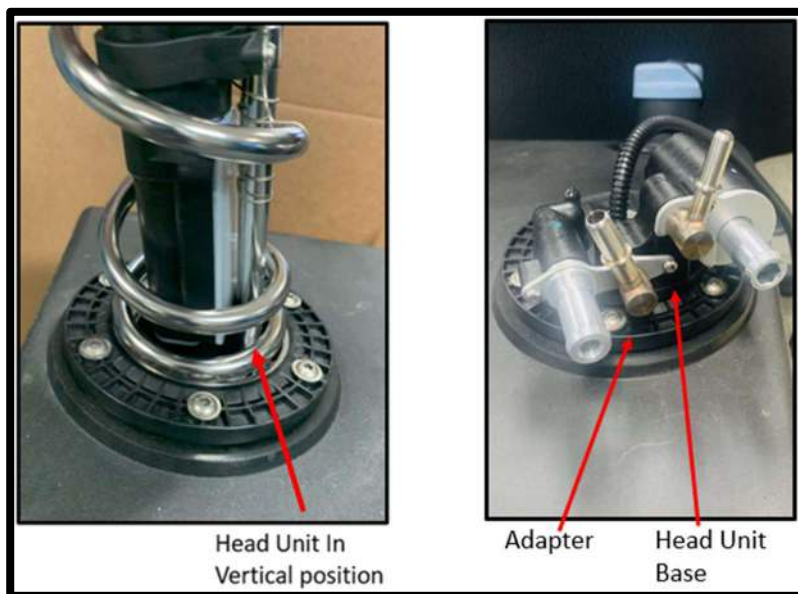

Figure 2.9 Installation of Head Unit
- 7) Once the heat exchanger bottom coil is inserted through the adapter rotate the head unit vertically and push it down while rotating counterclockwise till the head unit base sits on the adapter, as shown in **Figure 2.9**